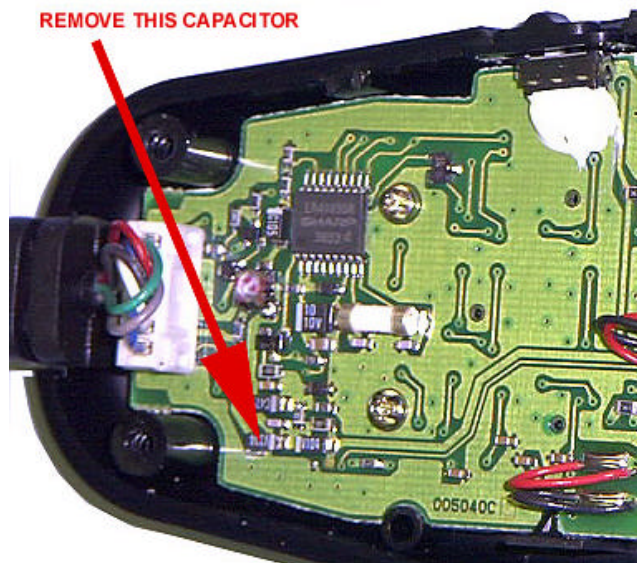

Figure 1.
1. Remove the rear cover of the MH-36b microphone and observe the internal PCB as shown in Fig. 1.
- 2. Carefully remove the capacitor identified in Fig. 1.
- 4. Attach the wires from the One BIG Punch to the IM-103 PCB as shown in Figs. 1 and 3. BEFORE soldering the several OBP wires to the MH-36b PCB, be certain to place two pairs of ferrite beads on the red OBP wire and one pair of beads on the orange OBP wire. A pair comprises a Type #43 and a Type #77. They have a slightly different grayish color.